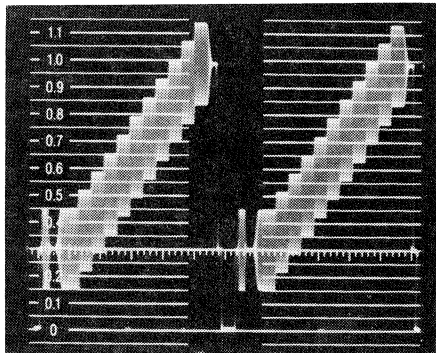

Fig. 6-2 RESPONSE control set to FLAT.
- 0.3 graticule. A modulated staircase signal will be displayed as shown in Fig. 6-2. In this setting, the tolerance of a frequency response is within $\pm 5\%$ from 25Hz to 5MHz.